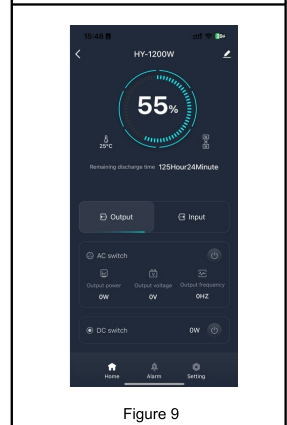

Figure 9
- After the connection is successful, the interface shown in Figure 9 will be automatically displayed. Successfully connected to this Bluetooth control mode